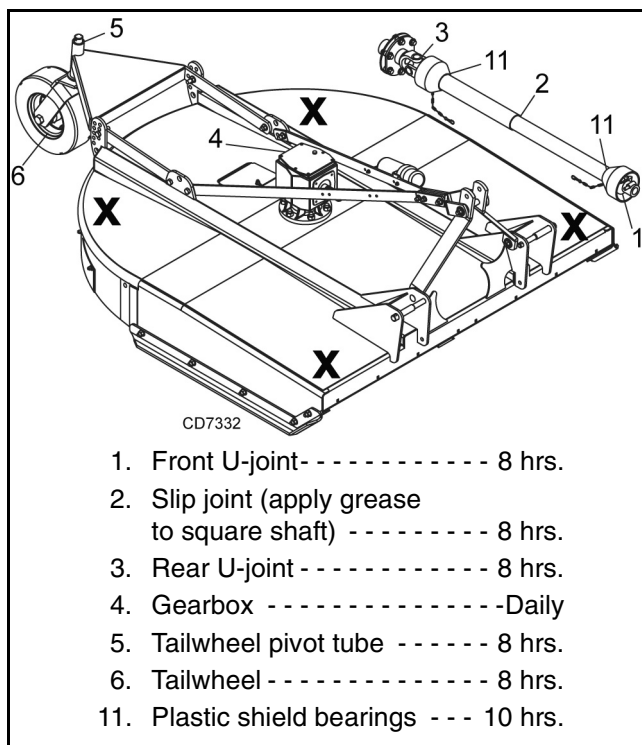

Figure 11. Jackstand Placement & Lubrication Points
1. Jackstands with a load rating of 1000 lbs or more are the only approved blocking device for this cutter. Install a minimum of four jackstands (shown by Xs in Figure 11) under the cutter before working underneath unit.
See Figure 11 for lubrication points and frequency or lubrication based on normal operating conditions. Severe or unusual conditions may require more frequent lubrication.
■ If blade pin (1) is seized in crossbar and extreme force will be needed to remove it, support crossbar from below to prevent gearbox damage.
2. Raise cutter and block securely (see Figure 11).
3. Open blade access cover and align crossbar assembly (3) with blade access hole in the cutter frame. Remove cap screw (8) blade pin lock clip (7) keyhole plate (6) and shims (5 & 4). Carefully drive blade pin out of crossbar.